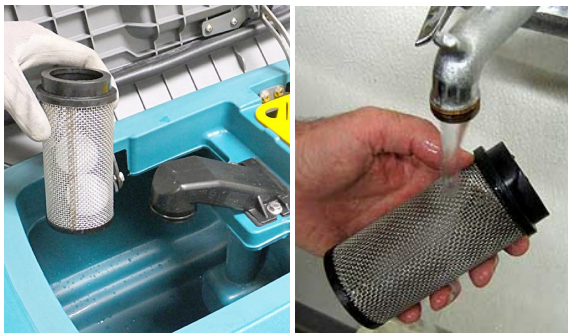

FIG. 49
3. Remove and clean the float shut-off screen (Figure 49).